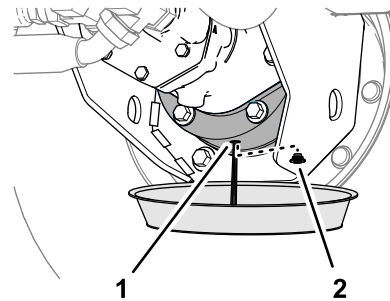

Figure 87
6. Place a drain pan under the brake housing, remove the drain plug, and allow the oil to drain completely (Figure 87).